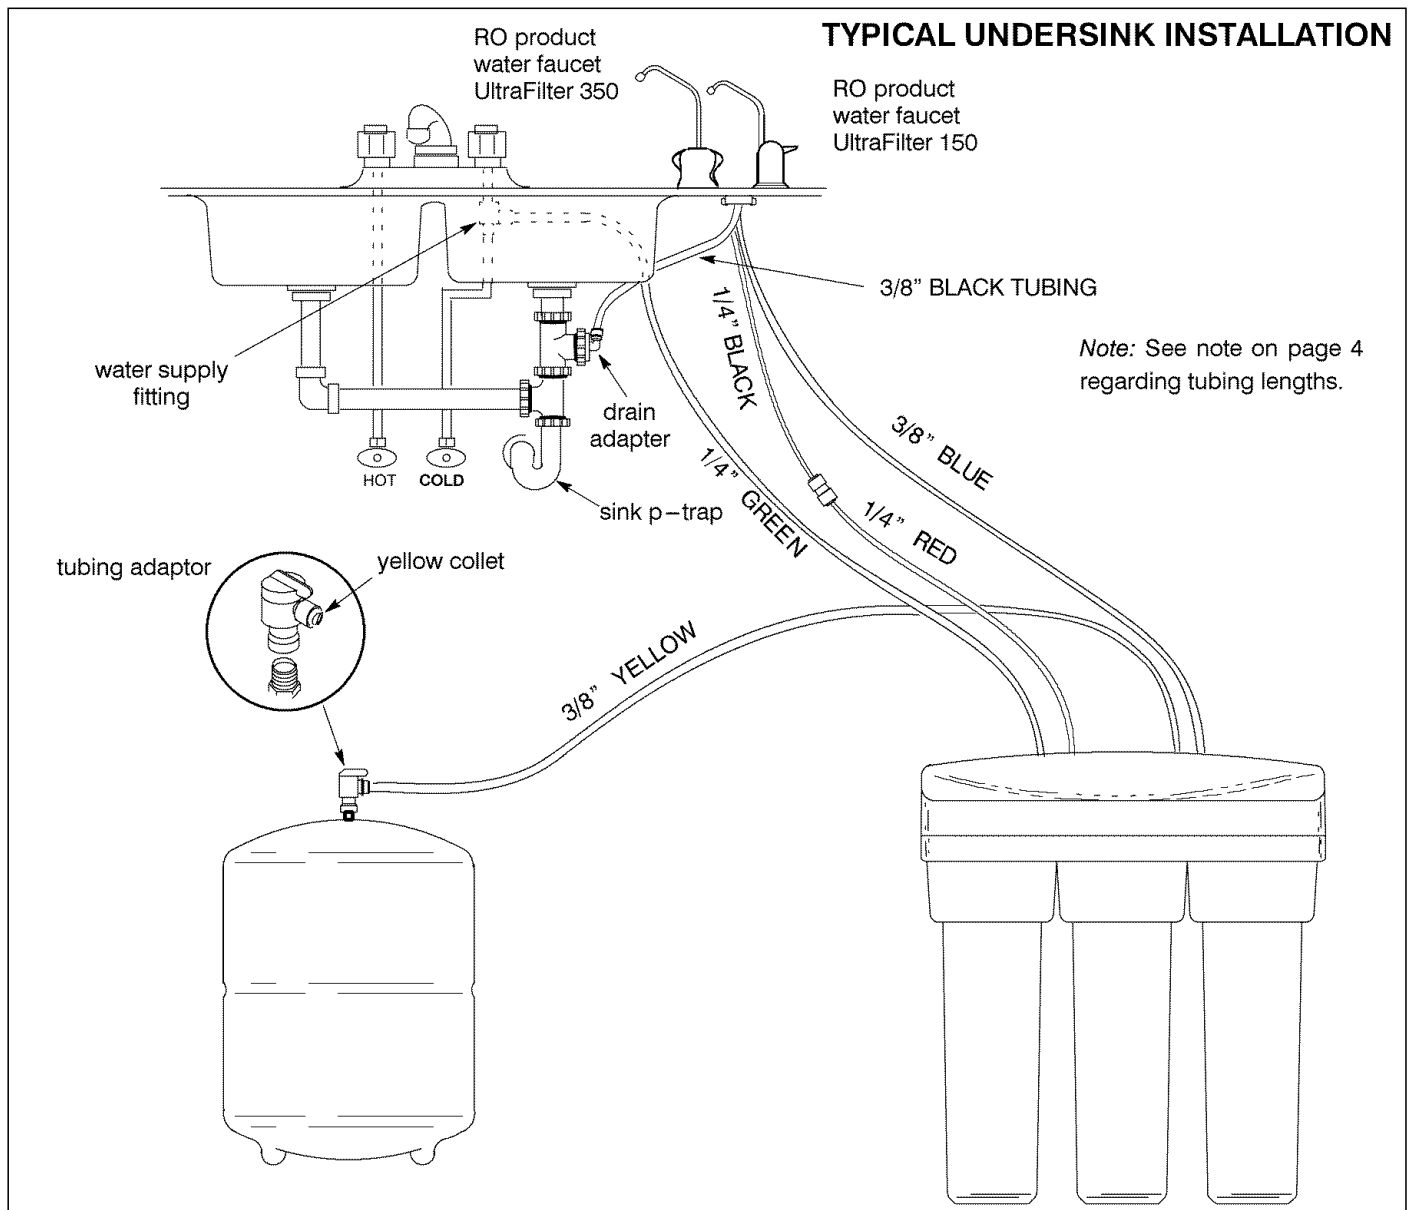

Figure 10
Check and comply with local plumbing codes as you plan, then install a cold feed (supply) water fitting. The fitting must provide a leak-tight connection to the RO 1/4" tubing (see Figure 10, page 10). A typical connection using the included water supply fitting is shown in Figure 3A below. An optional connection, using standard plumbing fittings (not included), is shown in Figure 3B.
1. Select one of the following places for the faucet. Be sure it will fit flat against the surface, and there is space underneath for tubing (see Figure 10, page 10).
1. **CONNECT DRAIN TUBING, FAUCET TO DRAIN ADAPTER:** Referring to Figure 10, run the loose section of **black 3/8"** tubing from the faucet to the drain adapter, with a black collet, installed on page 6. Cut this tubing as needed to **route in as straight of a run as possible, without loops, dips, low spots or kinks.** Cut the end of the tubing square. Then push all the way into the fitting. Pull on the tubing to be sure it's held firmly in the adapter fitting. See page 16 for tubing connection instructions.
Water from the cold supply pipe enters the RO assembly prefilter first (Figure 10, page 10, and schematic, page 13).